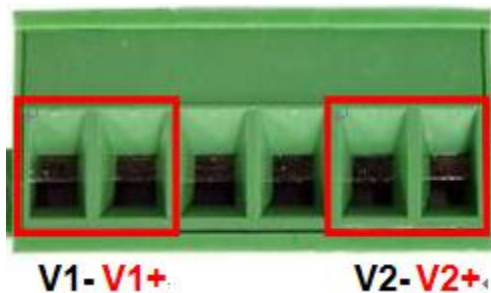

Figure 2.14: Power Terminal Block
Step 1 Insert the positive and negative wires into the PWR1 (V1+, V1-) and PWR2 (V2+, V2-) contacts on the terminal block connector as shown below in Figure 2.14.